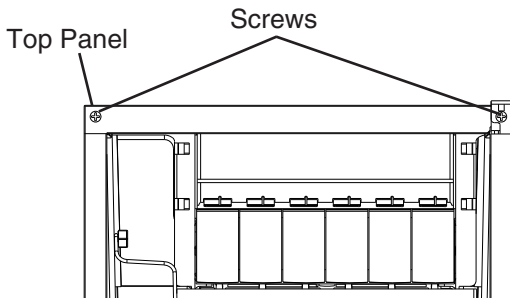

Fig. 4
- a) Remove "hinge (A)-left" from the accessory bag.
- b) Remove the 2 screws securing the top panel, then lift it off. See Fig. 4.